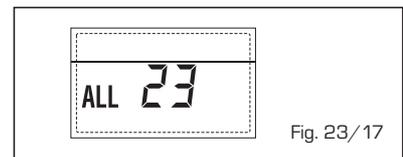

Fig. 23/17
**- ANOMALÍA SONDA DEL COLECTOR SOLAR (S1) "ALL 24" (fig. 23/18)**